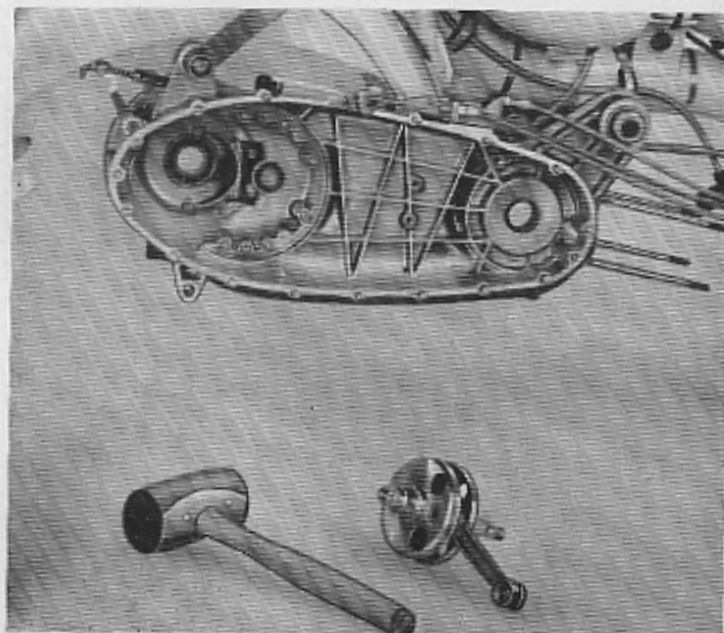

Fig. 20
- 34 To remove crankshaft: tap with copper punch from crankcase end to free it from bearing. See Fig. 20.